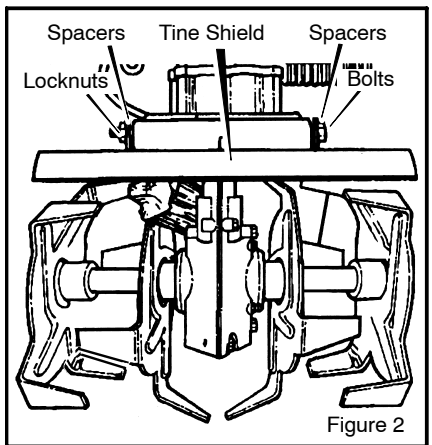

Figure 2
2. Remove the **locknuts, spacers, and screws** from the **tine shield** (see Figure 2).